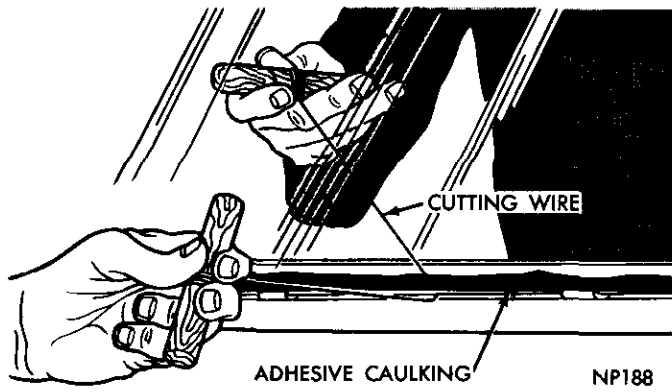

Fig. 5—Cutting Adhesive Caulking
(1) Place protective coverings over rear seat cushion and back, shelf panel or shroud, and adjacent exterior body surfaces.
(2) Remove window exterior mouldings using Tool C-4009 and inner garnish mouldings.
(3) Secure one end of a two foot length of tempered steel wire (.028 gauge max.) to a wooden handle.
(4) Insert other end of wire through adhesive at lower corner of window and secure to another wooden handle.
(5) With an assistant, carefully cut through adhesive material by pulling wire, in a sawing motion, up one side, across top, down opposite side and across bottom (Fig. 5).